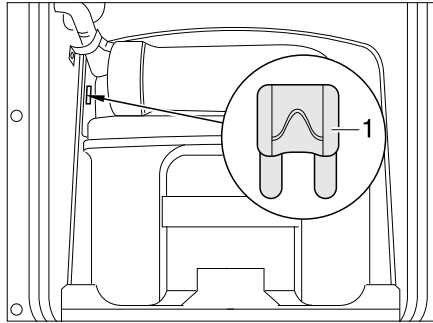
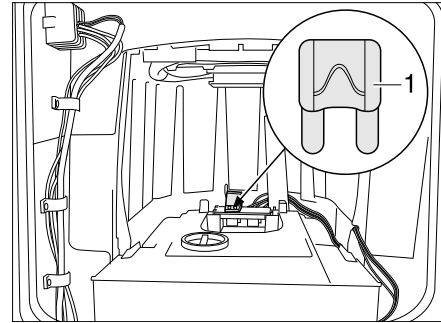

Fig. 301 Fuse for the Thetford toilet
Fig. 302 Fuse for the Thetford toilet (alternative)
- Replace fuse (Fig. 301,1 or Fig. 302,1).